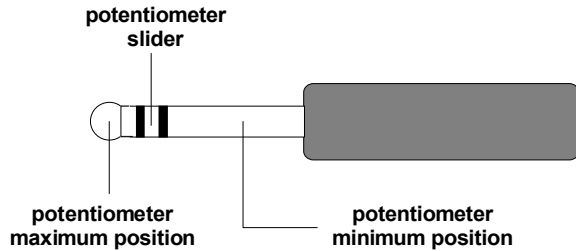

fig. 1: foot pedal connection diagram
Connect a foot pedal to either or both **input sockets** ③ and ⑤. The connection system for the 6.3 mm stereo jack plug adopted by Doepfer is shown in fig. 1.